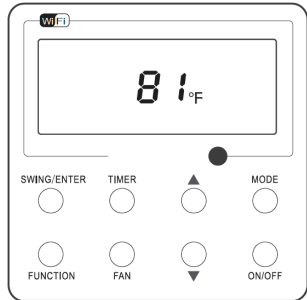

Fig. 4 "OFF" State
- The state shown in Fig.4 indicates the “OFF” state once power is applied. The state shown in Fig.5 indicates the “ON” state of the unit.